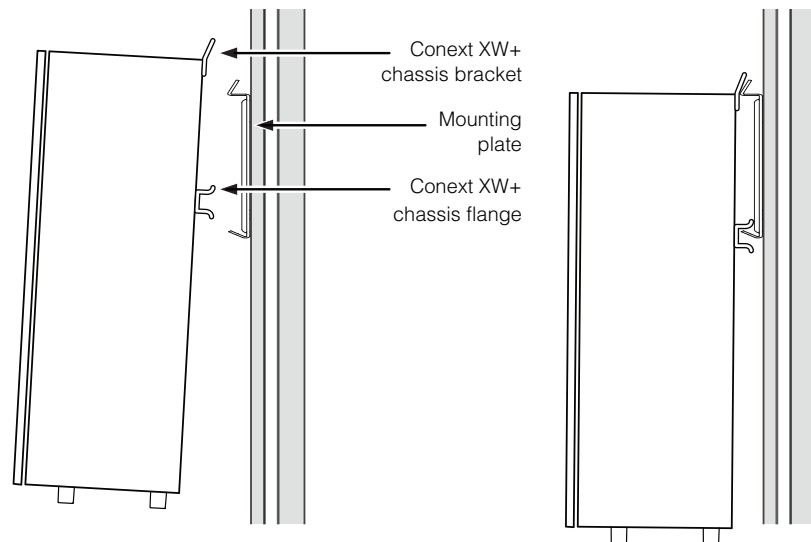

Figure 2-6 Wall-mounting the Conext XW+
1. Align the flange on the back of the Conext XW+ chassis with the bottom edge of the mounting plate, as shown in Figure 2-6.